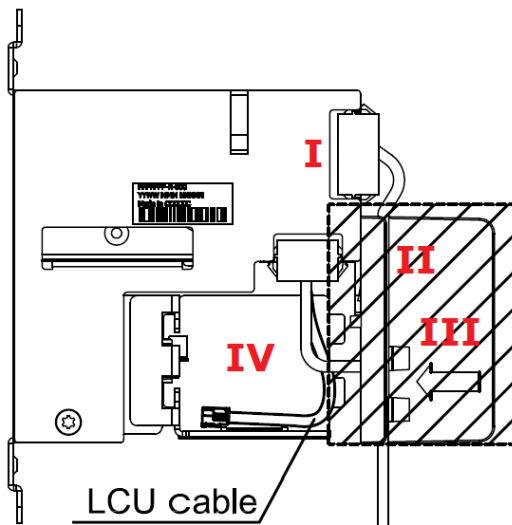

Figure D17
19. Connect the lock case cable to the Essence cassette (I in Figure D17).
20. Snap the lock case cable into the cable gateway in the endnode housing (II in Figure D17).
21. Fasten the cooling material in the area marked with III in Figure D17.
Make sure that the LCU cable is well positioned in the space marked with IV in Figure D17, to avoid pinching of the cable.